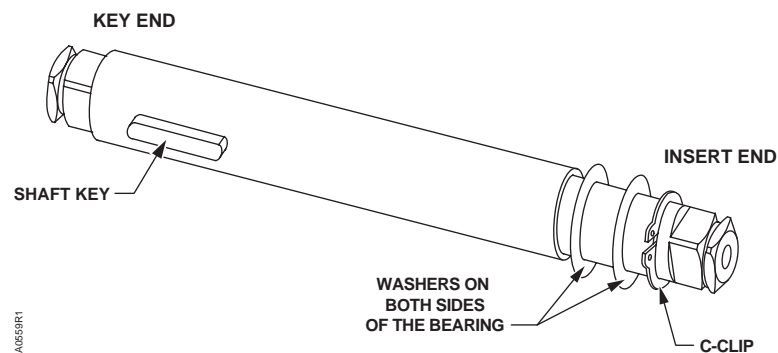

Figure 4.
3. Each shaft is supplied with two washers and a "C" clip. See Figure 4. Using spreading pliers, remove the "C" clip and the washers from the shaft.